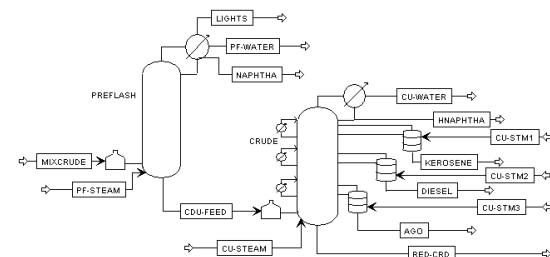

Figure 3.1 Process Flowsheet: The Atmospheric Crude Distillation Unit
Figure 3.1 shows the process flowsheet you are developing in this simulation. The topped crude from the preflash tower goes first to the crude furnace, then to the atmospheric tower. Model the crude furnace and the atmospheric tower units together, using a single PetroFrac block. This approach enables you to adjust furnace variables to achieve certain tower specifications, such as the overflash.
This makes room for the crude distillation unit, as shown in Figure 3.1.
- 2 Connect, move, and name the streams as shown in Figure 3.1, using the names and ports in the table below.
Note: In order to make the streams appear as in Figure 3.1, rotate some feed icons and move some ports.